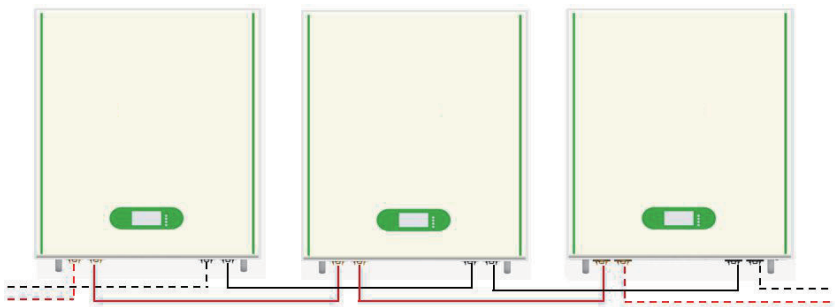

Figure 4-1 Parallel installation diagram
- b、 Connect the battery output terminals P+and P - on the product chassis to the "+" and "-" poles of the DC output terminal of the DC power module with red and black cables with a wire diameter of more than 25 square meters. For multi-level connection, connect the batteries in parallel, as shown in Figure 4-1
The battery pack can be operated in a single unit or in parallel, with a maximum of 16 groups in parallel. The following figure takes three groups of parallel installation as an example, which can be installed as shown in Figure 4-1.